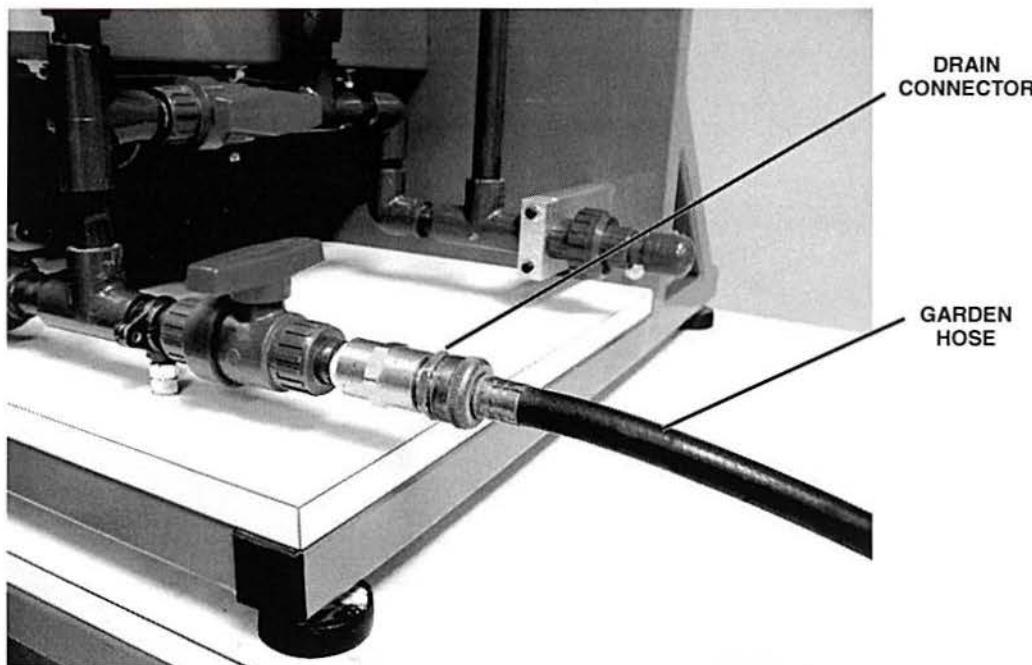

Figure 25. Garden Hose Connected to T5554 Drain Connection
- D. Connect one end of the garden hose to the drain connection on the T5554, as shown in figure 25.